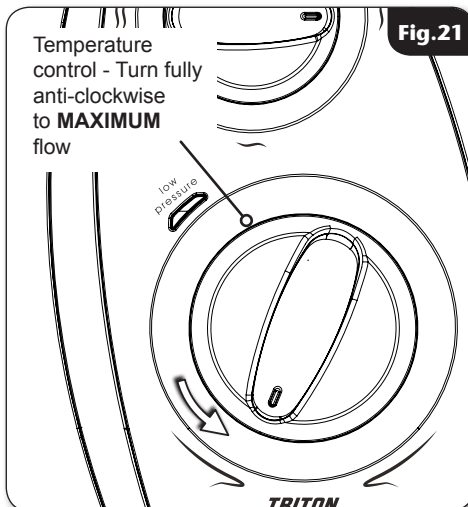

Fig.21
4. Slowly rotate the temperature control fully **anti-clockwise** to the **MAXIMUM** flow position (**fig.21**). It will take about thirty seconds for a smooth flow of water to be obtained while air and any debris is flushed from the shower.